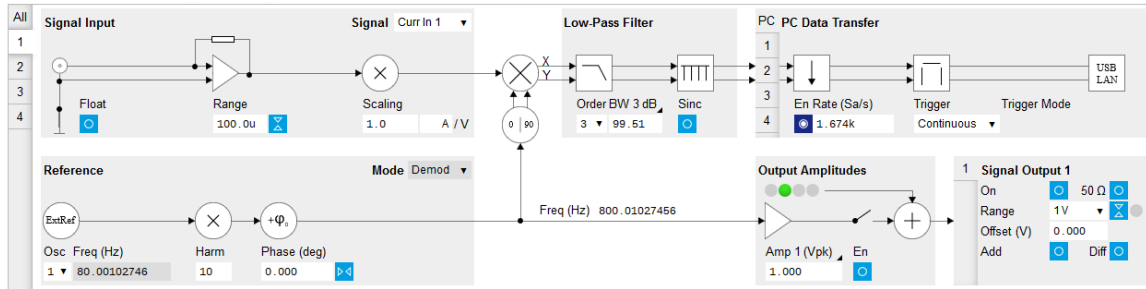

Figure 3.10. Lock-in tab setup for measurement at 800 Hz (with MF-MD option)
**With MF-MD Multi-demodulator option:** Open the graphical Lock-in tab of the first demodulator. We use this demodulator to perform the lock-in detection. In the Signal Input section of the graphical Lock-in tab, select Current Input 1 and change the input range to 100  $\mu$ A. In the Reference section, choose Oscillator 1 and set the Harmonic (Harm) to 10, cf. Figure 3.10. In the circuit diagram of the graphical Lock-in tab, you should observe the numeric value of the demodulation frequency, 800 Hz. Set the Low-Pass Filter to 100 Hz (3rd order) and enable the data stream in the PC Data Transfer section.